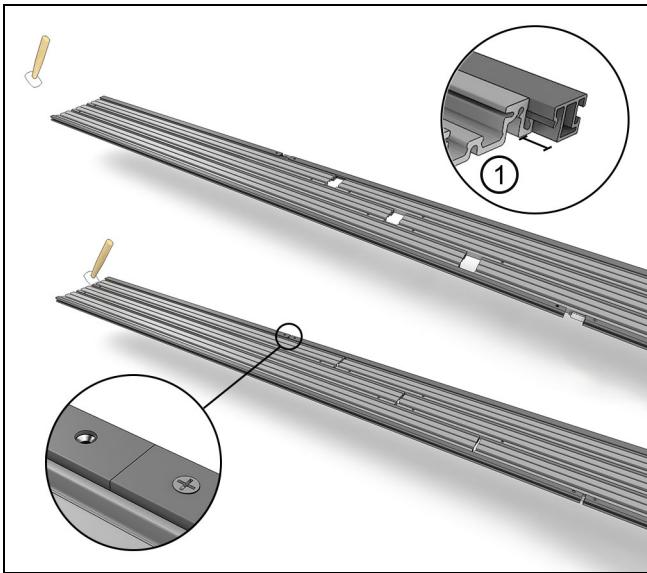

Figure 21
6. Tap the two sections together until the splice joint is tight and the end of the tracks are flush. The sill liners will sit 1/2"(13) beyond the tracks on each side of the sill. See Figure 21.